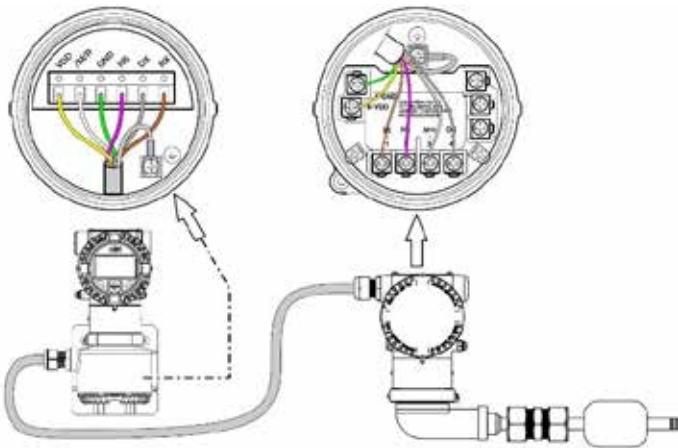

Figure 22 Remote version: connecting the signal cable
- 6 Connect the wires to the corresponding terminals (refer figure 22).